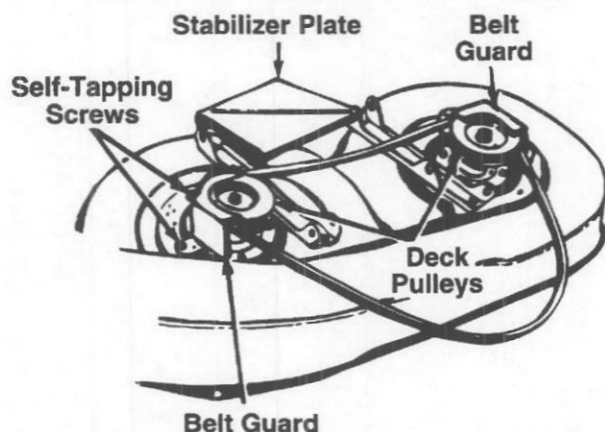

FIGURE 19.
10. Remove the belt guards at each deck pulley by removing the self-tapping screws. See figure 19.